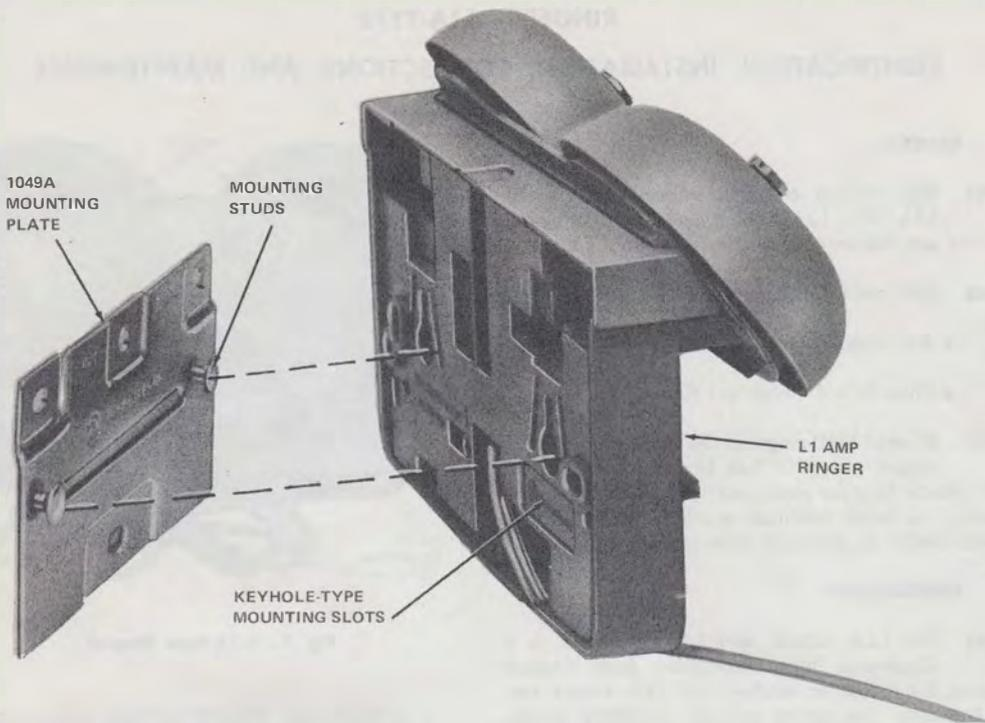

Fig. 2—L1AMP Ringer and Mounting Plate
3.04 To mount ringer to mounting plate. Align mounting plate studs with keyhole-type slots in ringer, press ringer down on mounting plate until mounting studs completely engage ringer (Fig. 2).